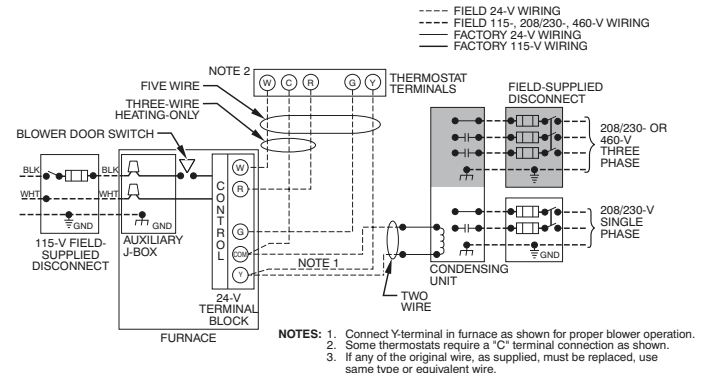

Fig. 33 – Typical Single-Stage Wiring Diagram
See Fig. 33 for field wiring diagram showing typical field 115-V wiring. Check all factory and field electrical connections for tightness.
6. Connect power cord power and neutral leads to furnace power leads as shown in Fig. 33.
5. Connect field power and neutral leads to furnace power leads as shown in Fig. 33.
Make field 24-v connections at the 24-v terminal strip. See Fig. 38. Connect terminal Y as shown in Fig. 33 for proper cooling operation. Use only AWG No. 18, color-coded, copper thermostat wire.